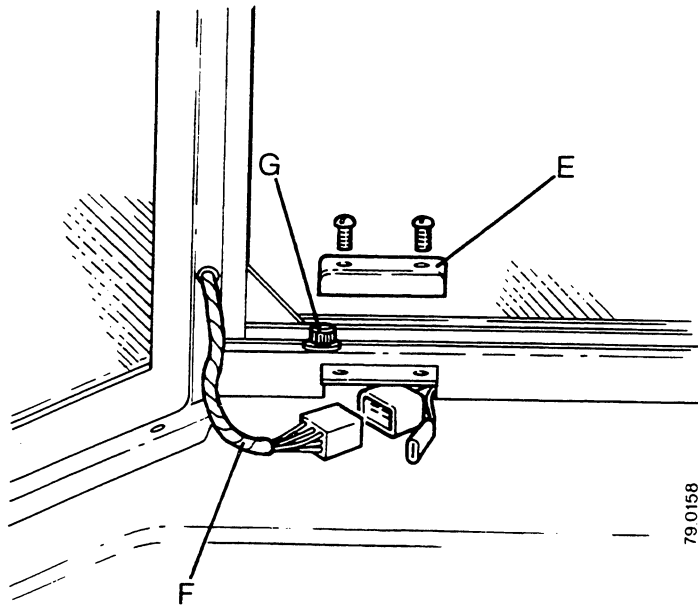

FIGURE 6. ELECTRICAL CONNECTOR
8. Remove the two setscrews and cover E from the housing for the electrical connection on the right-hand fender (See Figure 6).